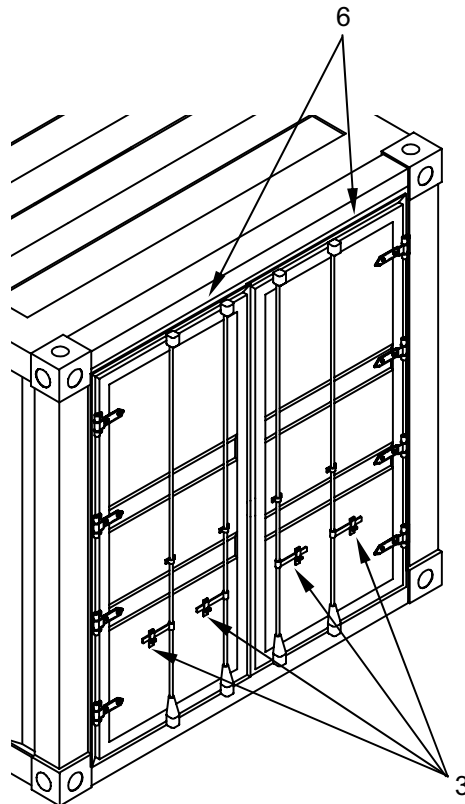

Figure 3. Double Entrance Doors.
1. Disengage latching mechanisms (**Figure 3, Item 3**) of double end doors (**Figure 3, Item 6**), and open doors.